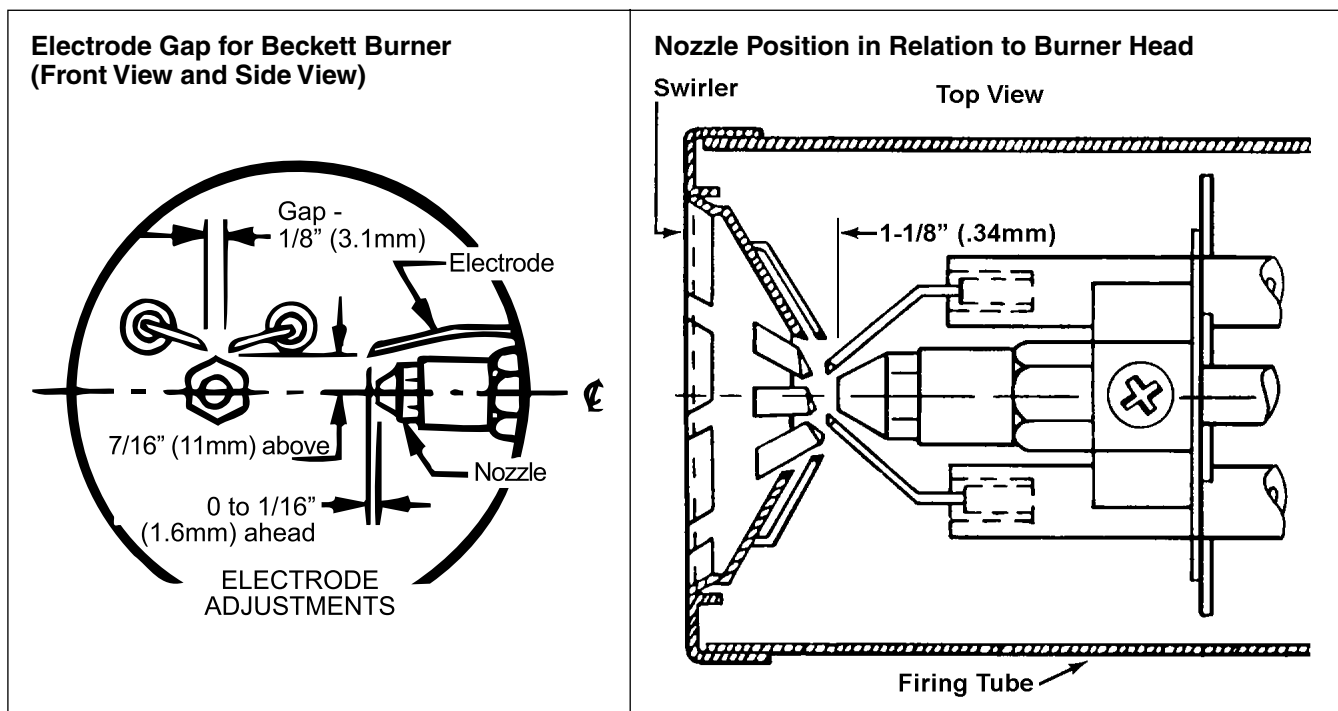

Figure 14. Electrodes and Nozzle
- ❑ **Check electrode adjustment.** ensure electrode positioning is in accordance with **Figure 14**. Turn OFF the electrical power before making the check.